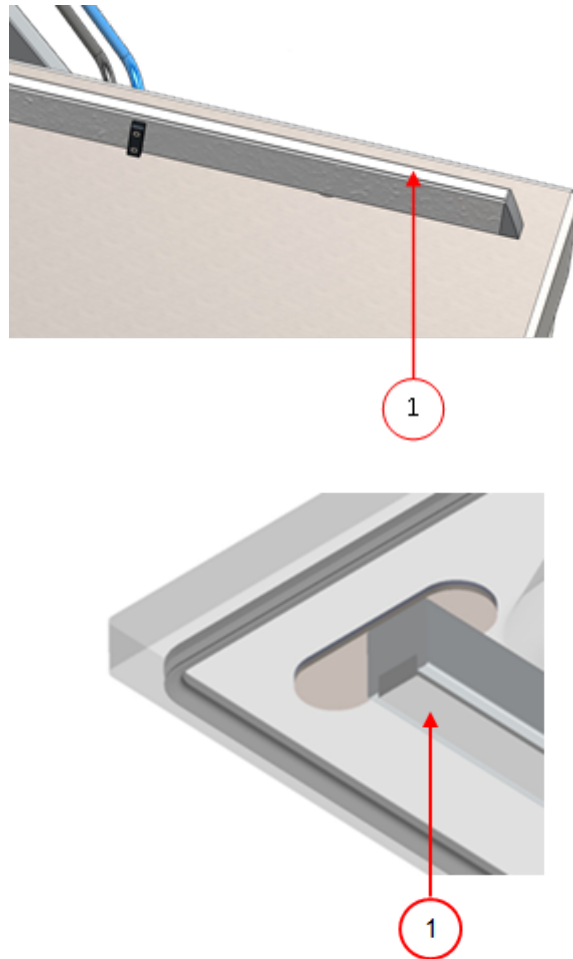

Figure 26: Replacing the Silicone Rubber of the Silicone Holders
1. Pull the old silicone rubber from the holder, see *Figure 26: Replacing the Silicone Rubber of the Silicone Holders* on page 69.